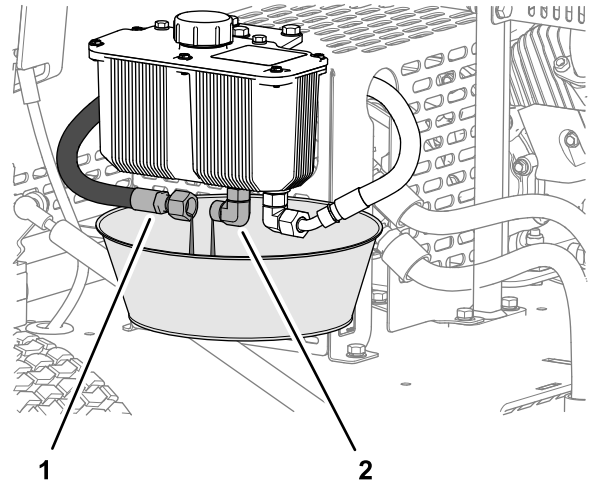

Figure 36
1. Align a drain pan with a 2 L (2 US qt) capacity under the hydraulic reservoir (Figure 36).
2. Remove the hydraulic-supply hose from the fitting of the reservoir, and allow the hydraulic fluid to drain completely (Figure 36).